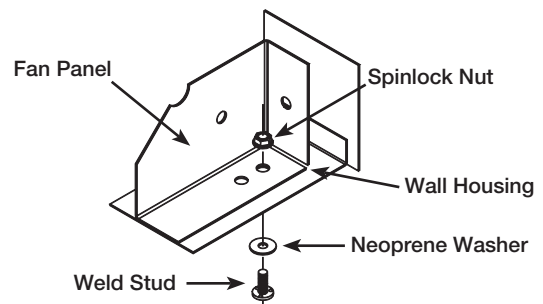

Figure 3 - Assembly
- Using weldstuds and neoprene washers, attach the wall housing bottom panel (Item 4) to the bottom of the fan panel. With the weldstud heads and neoprene washers on the exterior of the housing, refer to Figure 3, place hex nuts on the spinlock bolts and finger tighten.